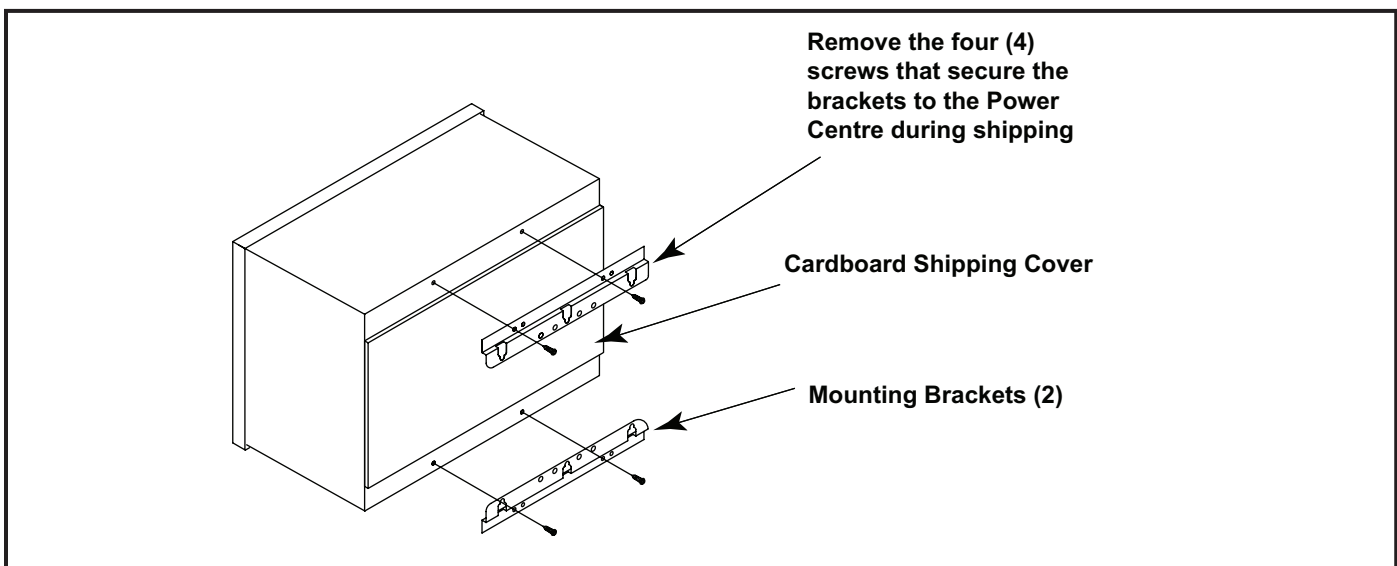

Figure 6. Removing the Control Centre Mounting Brackets from Shipping Position
1. The control centre must be at least three (3) metres (9.8 feet) away from the pool/spa and 1.5 metres (5 feet) above the ground. All national, provincial/state, and local codes are applicable.
2. The control centre comes with two (2) full length, heavy duty mounting brackets *fastened* to the back of the power centre during shipping. Remove the four (4) screws that are holding the two (2) brackets and the cardboard shipping cover in place (see Figure 6). Remove and discard the cardboard.